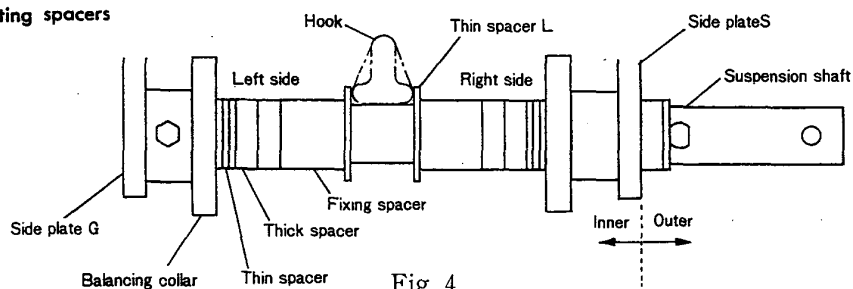

Fig. 4
- 1) Take off stopper pin and also take off side-plate S and spacer from suspension shaft. Insert the suspension shaft into the inner adjusting spacers and the top hook, referring to Fig. 4 and Table 2.